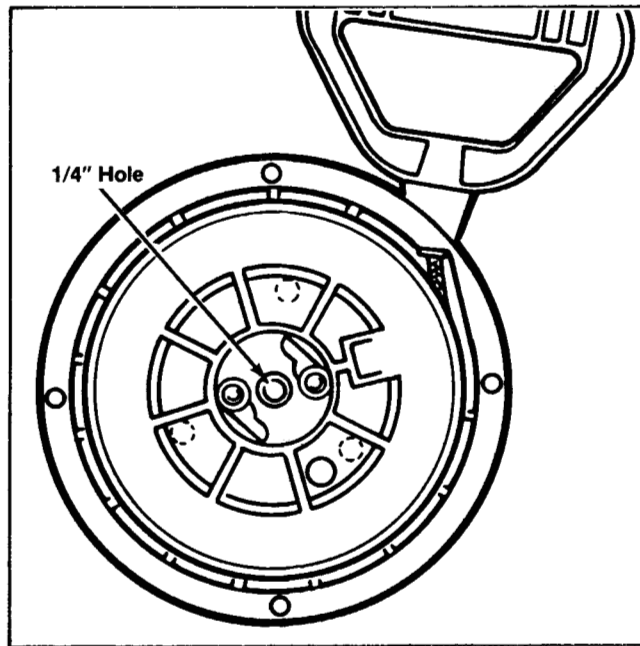

Figure 129
- b. Using the center hole in the pulley assembly as a guide. See Figure 129. Drill a 1/4" diameter hole through the housing.